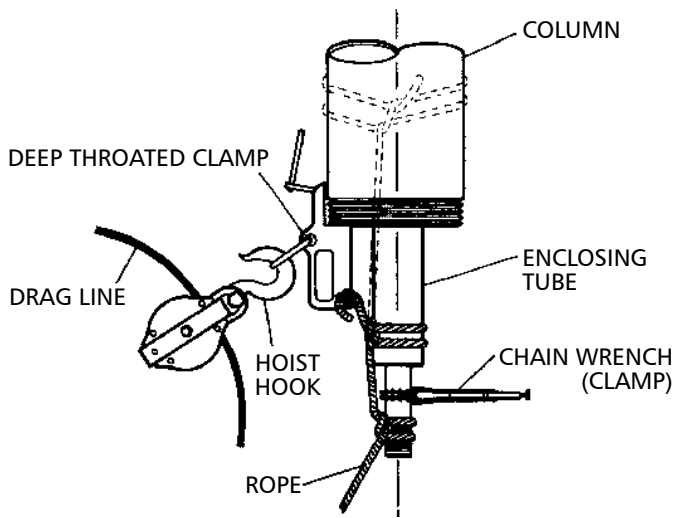

Figure 7
- If pump has a column adjusting nipple (631), for open lineshaft, screw the discharge head onto the column nipple until the end of the stub shaft is "HT" below the face the driver mounting flange of the discharge head. (See Figure 7 for detail.) For enclosed lineshaft, screw the discharge head onto the column nipple until the "F" dimension is satisfied (See Figure 7). Tighten the lock ring (639).
For setting less than 100 ft., tighten to the nearest locking position. Check the "HT" dimension (See Figure 7), be sure it is correct.